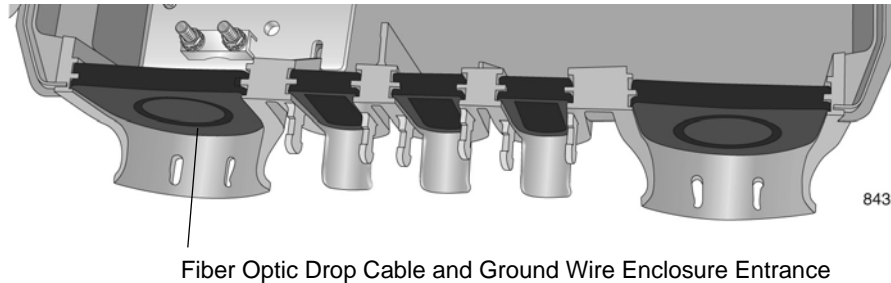

Figure 8. Location of Fiber Optic Drop Cable and Ground Wire Entrance
1. Locate the fiber optic drop cable and ground wire entrance on the enclosure, as shown in Figure 8.